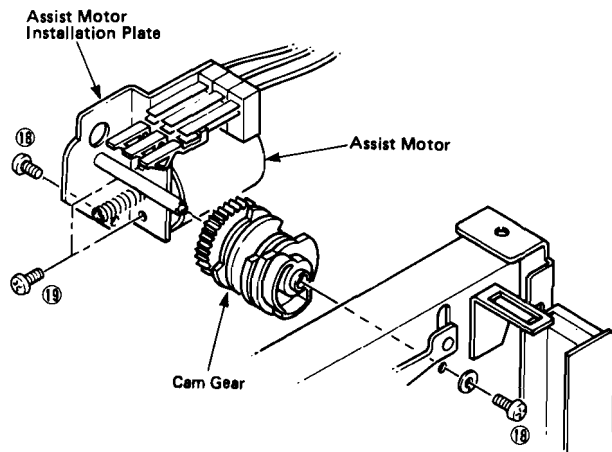

Fig. 11
- a. Remove 2 screws (18) in Fig. 11 and remove the assist motor installation plate.
- b. Remove 2 screws (19) in Fig. 11 and replace the assist motor.